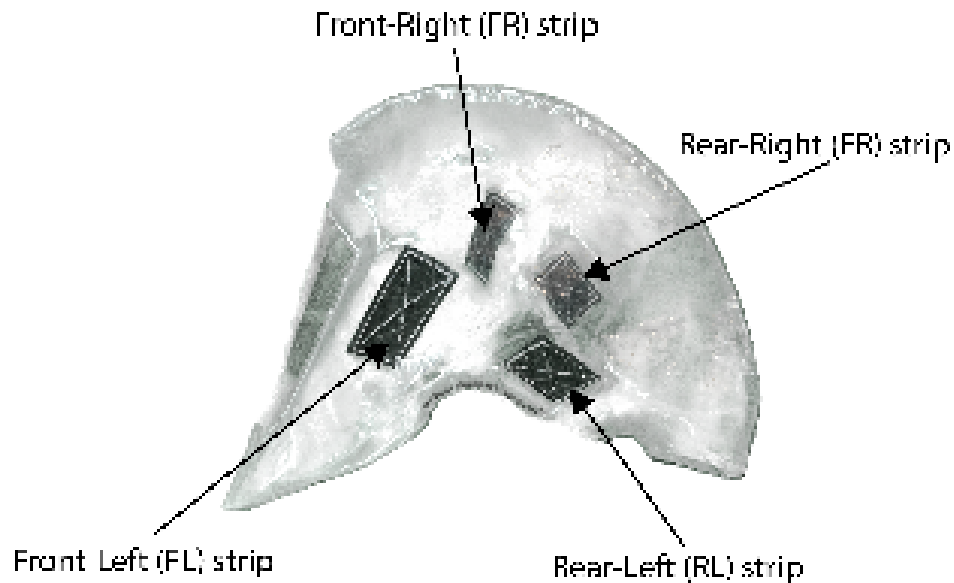

Figure 14: Velcro strips on the hood
13. Put on the hood. There are 4 velcro strips on the inside of the hood that correspond to FR, FL, RR, RL strips on the head strap. The 4 strips on the hood are labelled in **Figure 14** below.